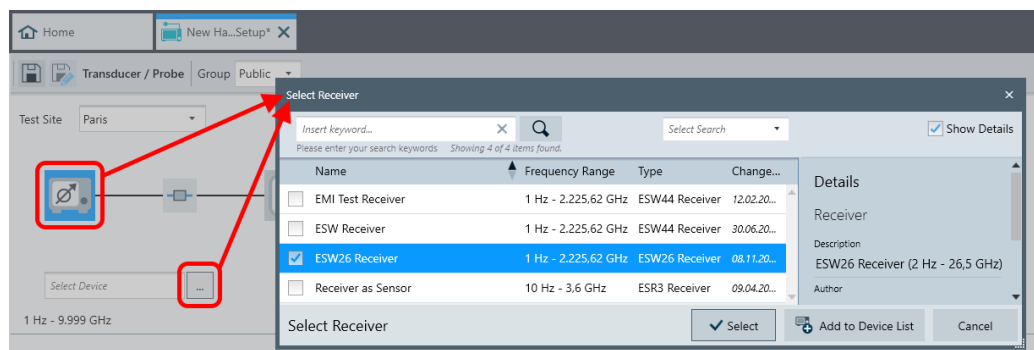

Figure 4-128: Selecting a device, here a receiver in an EMI test setup
A central building block of each hardware setup dialog is the interactive setup diagram for each frequency range. The diagram shows the hardware setup with all its lab devices, transducers and connecting signal paths (jointly called devices). Figure 4-128 shows how to select a device for integrating it into the hardware setup diagram and for configuring it.
- If a device is *not yet selected*, the buttons in the **large** and **small** red square in Figure 4-128 both open the "Select ..." dialog.
- If the device or signal path has not yet been selected (chosen), the "Select ..." dialog (shown in Figure 4-128) is opened for selecting the device.
- If the device or signal path is already selected (chosen), its name is shown in the "Select Device" field (4), where you can change the selection.